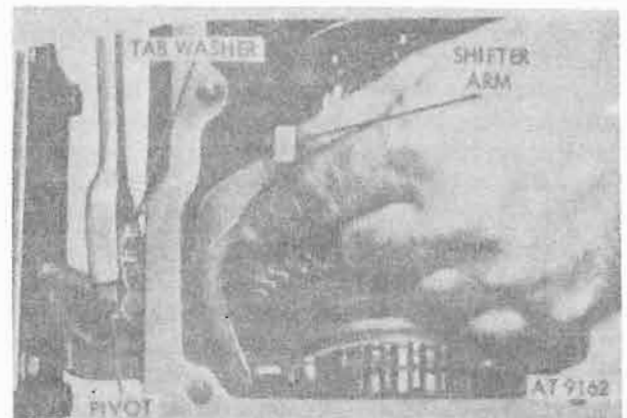

Figure 8-29. Shifter arm and pivot.
- a. For early models, straighten tab on tab washer securing pivot. Remove and discard tab washer and pivot. Lift shift arm from case (fig. 8-29).
- b. For late models remove pivot and lift shifter arm from case (fig. 8-29).